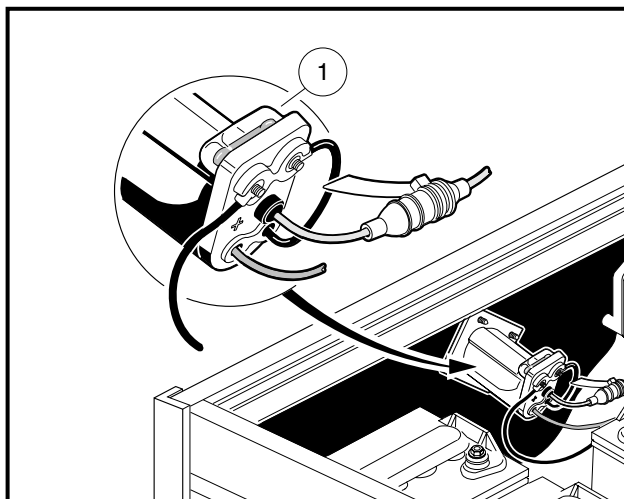

Figure 17 Sense Lead Fuse
- **Never modify wiring in charger receptacle to bypass the gray sense lead fuse (2) (Figure 17, Page 35).**
As an additional feature to protect the batteries and charging circuit from an overload, all Carryall electric vehicles are equipped with a receptacle fuse link (1) (**Figure 17, Page 35**). If the charger does not turn on when the vehicle is placed on charge, inspect the fuse link.
- If the receptacle fuse link is blown, determine the source of the electrical problem and correct it before replacing the fuse (**Figure 17, Page 35**).